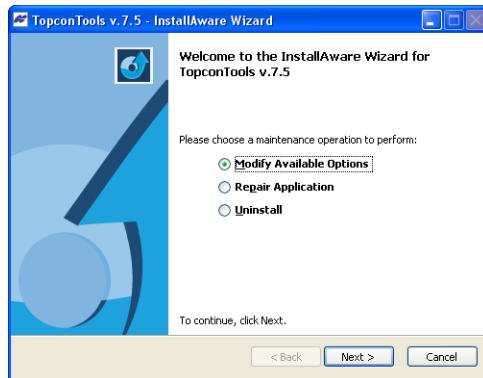

Figure 1-8. InstallAware Wizard
3. Select *Modify Available Options* and click **Next** (Figure 1-8)